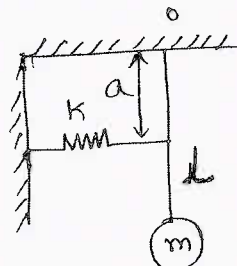

Fig.Q.8(a)
- 8 a. Find the natural frequency of the system shown in Fig.Q.8(a) using Newton's method. (08 Marks)